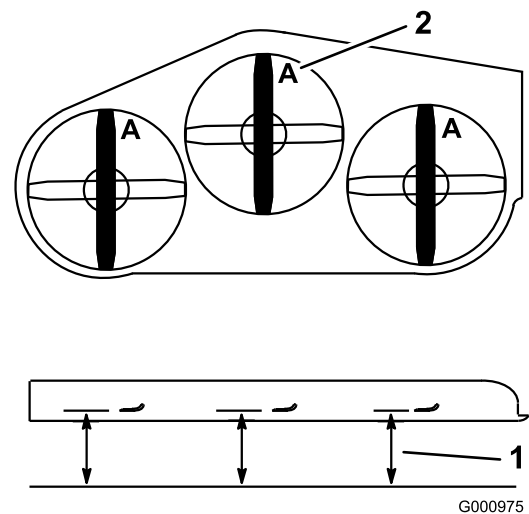

**Figure 92**
1. Inspect the cutting edges (Figure 92). If the edges are not sharp or have nicks, remove and sharpen the blades.
2. Inspect the blades, especially the curved area (Figure 92). If you notice any damage, wear, or a
slot forming in this area (Figure 92), immediately install a new blade.